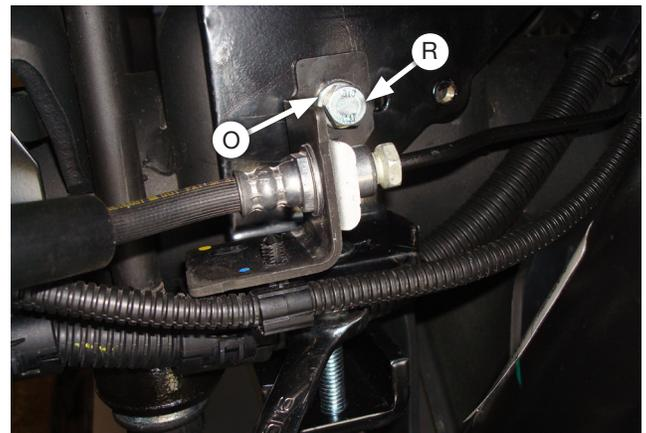

Fig. 18
6. Reattach the stock brake line/ABS brackets removed in the *Preparing the Vehicle* section using the M8 hex cap screws (O) and M8 flat washers (R) (Fig. 18). Tighten both sides securely.